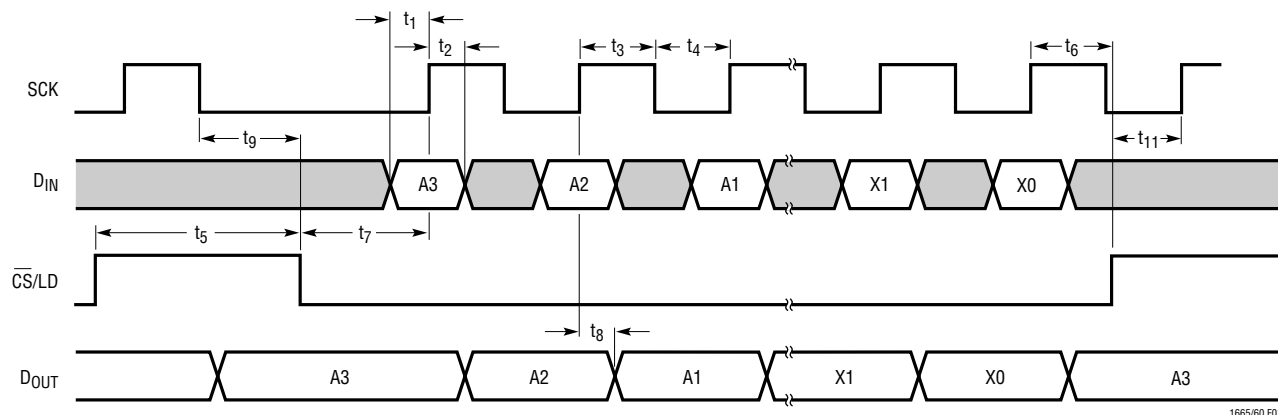

Figure 1
**TIMING CHARACTERISTICS** The ● denotes specifications which apply over the full operating temperature range, otherwise specifications are at  $T_A = 25^\circ\text{C}$ . (See Figure 1)
The ● denotes specifications which apply over the full operating temperature range, otherwise specifications are at  $T_A = 25^\circ\text{C}$ . (See Figure 1)